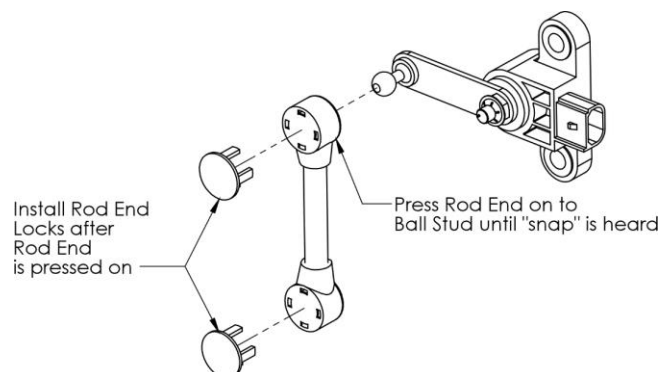

Figure 26. Height Sensor Plastic Linkage End Installation.
1. Install Height Sensors as shown above. Refer to **Figure 26 or Figure 27** for detail of linkage.